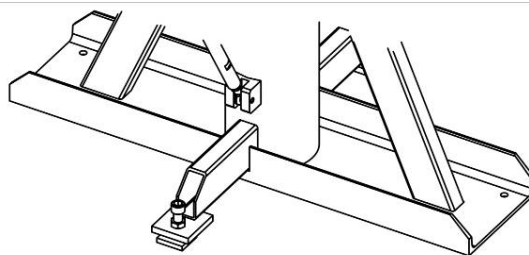

Figure 2. Pedestal base with fixing holes & jacking screws.
- 1.4 Locate jacking plates (supplied) under jacking screws, as shown in figure 2.